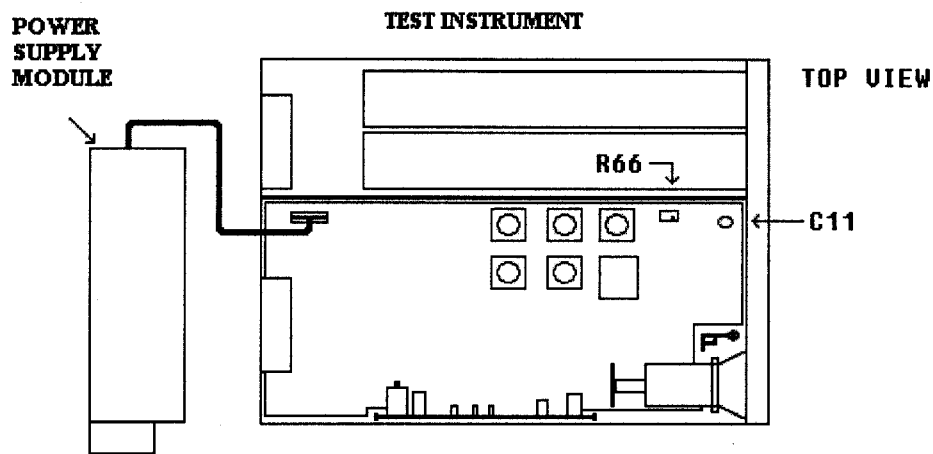

Figure 5. Trigger level adjust.
- (8) Set up function/arbitrary generator for an output of 1.02 Vpp 100 kHz square wave.
- (9) Set oscilloscope **CHANNELs A and B** input impedance to 50Ω.
- (10) Adjust oscilloscope controls to obtain a satisfactory dual two-channel display on the crt.
- (11) Adjust R66 (fig. 5) until **CHANNEL B** waveform just appears and is stable (R).